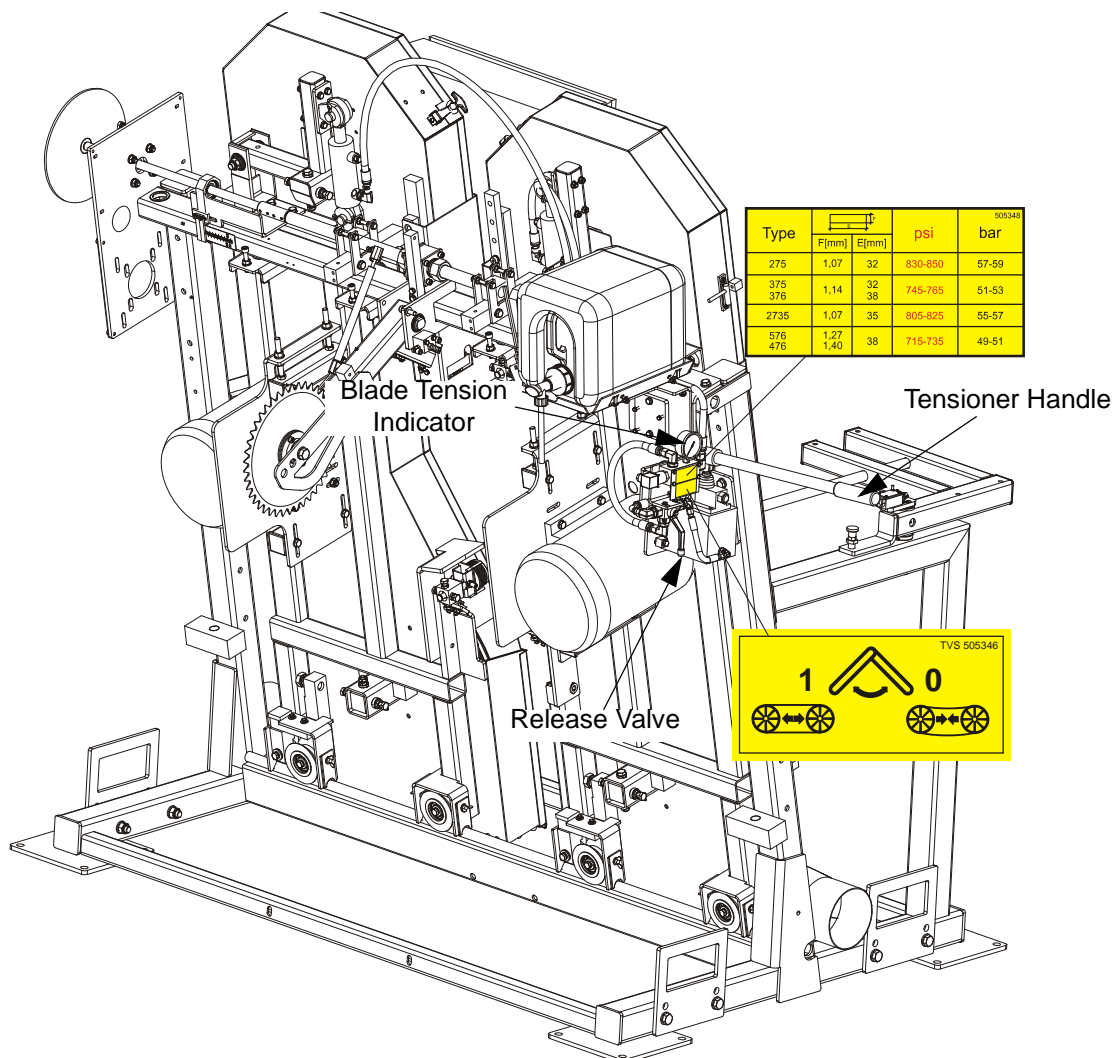

FIG. 2-4
See Figure 2-4. Place the provided handle in the blade tensioner socket and secure with a screw. Set the tensioner valve to position “1”. Move the tensioner handle up and down to tension the blade. Depends on the installed blade type, tension the blade to the value shown on the decal located below blade tension valve. Values “F” and “E” are: blade thickness and blade width. Check the blade tension occasionally when adjusting the cant control or while cutting and adjust if necessary. As the blade and belts heat up and stretch, the blade tension will change. Also, ambient temperature changes can cause tension to change. To release the blade tension set the tensioner valve to “0” position.
5. Use the cant adjustment bolt, shown in **Figure 2-4**, to adjust where the blade travels on the blade wheels.